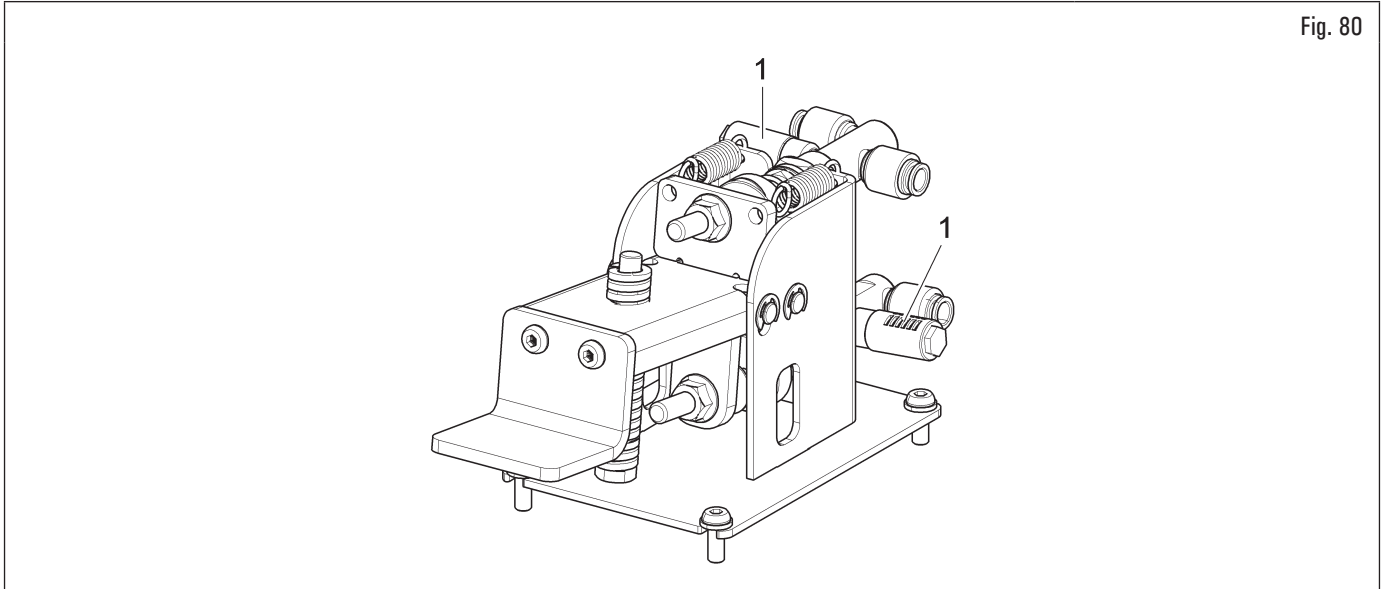

Fig. 80
2. undo the silencers (Fig. 80 ref. 1) located on the inflation pedal servo distributors;